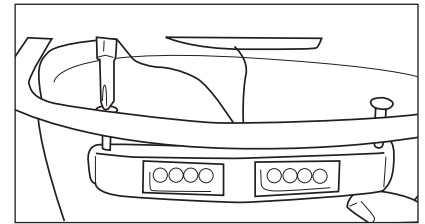

Figure 12
- Attach the LED assembly to the front brim of the helmet (Figure 12).